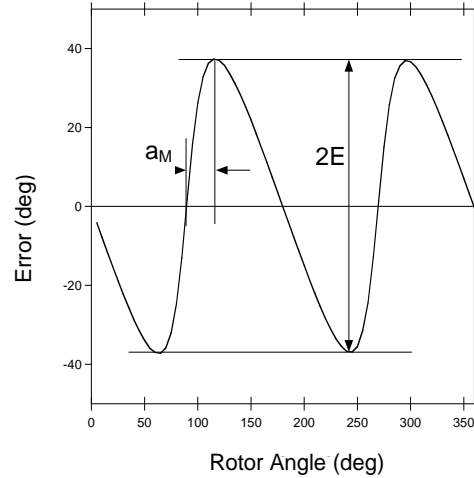

Figure 21: Error Curve in Side-Shaft Configuration with BCT = 0
The k ratio depends on the magnet geometry and the distance to the sensor. Having a k ratio other than 1 results in the sensor output response not being linear with respect to the mechanical angle. Note that the error curve has the shape of a double sinewave (see Figure 21 on page 19). E is the amplitude of this error.
The k ratio can be deduced from the error curve obtained with the default BCT setting (BCT = 0). Rotate the magnet more than one revolution and record the device’s output. Next, plot the error curve (the output minus the real mechanical position vs. the real mechanical position) and extract two parameters: the maximum error (E) and the position of this maximum with respect to a zero crossing a_M (see Figure 21). k can be calculated with Equation (5):